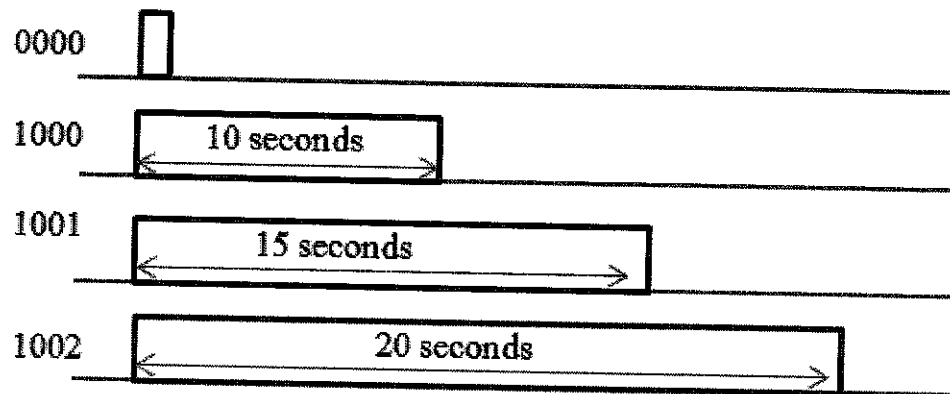

Figure A3(c)/ Rajah A3(c)
- (c) By using the basic timer instruction, draw a ladder diagram which would Produce a timing diagram as in Figure A3(c)